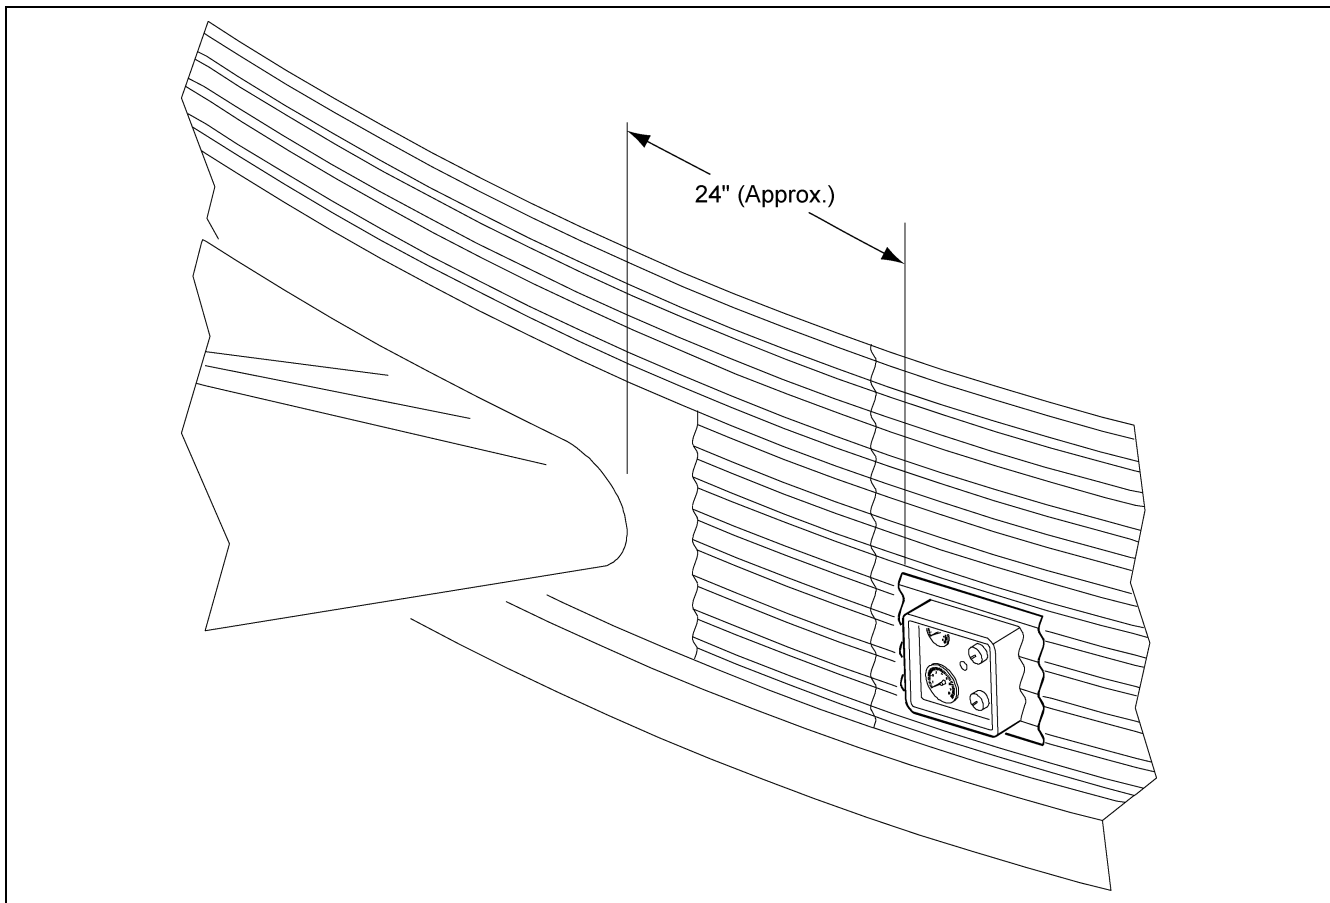

Figure 3A 24" is the approximate distance from the edge of the transition to the edge of the humidistat installation.
1. The Humidistat-Thermostat should be mounted on the side of the bin wall between the foundation and the drying floor. It should be installed approximately 24" from the right side of the transition as shown in Figure 3A.